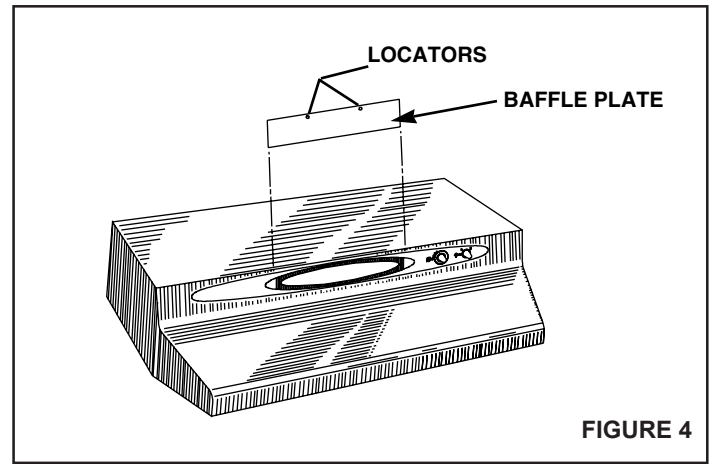

FIGURE 4
**If the range hood is to be installed as a ducted unit,** a baffle plate is provided to close off the non-ducted vent. Install baffle plate (Refer to FIGURE 4) by sliding into place behind grille. Use locator bumps to orient in grille.